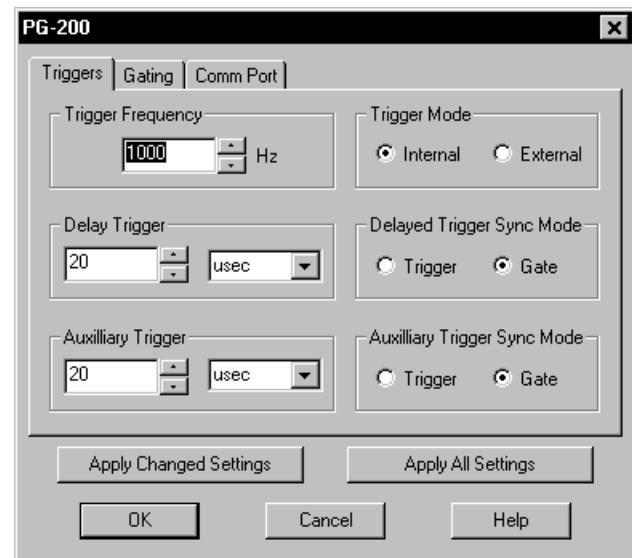

Figure 155. PG200 Triggers tab page
8. Click on the **Triggers** tab (Figure 155).